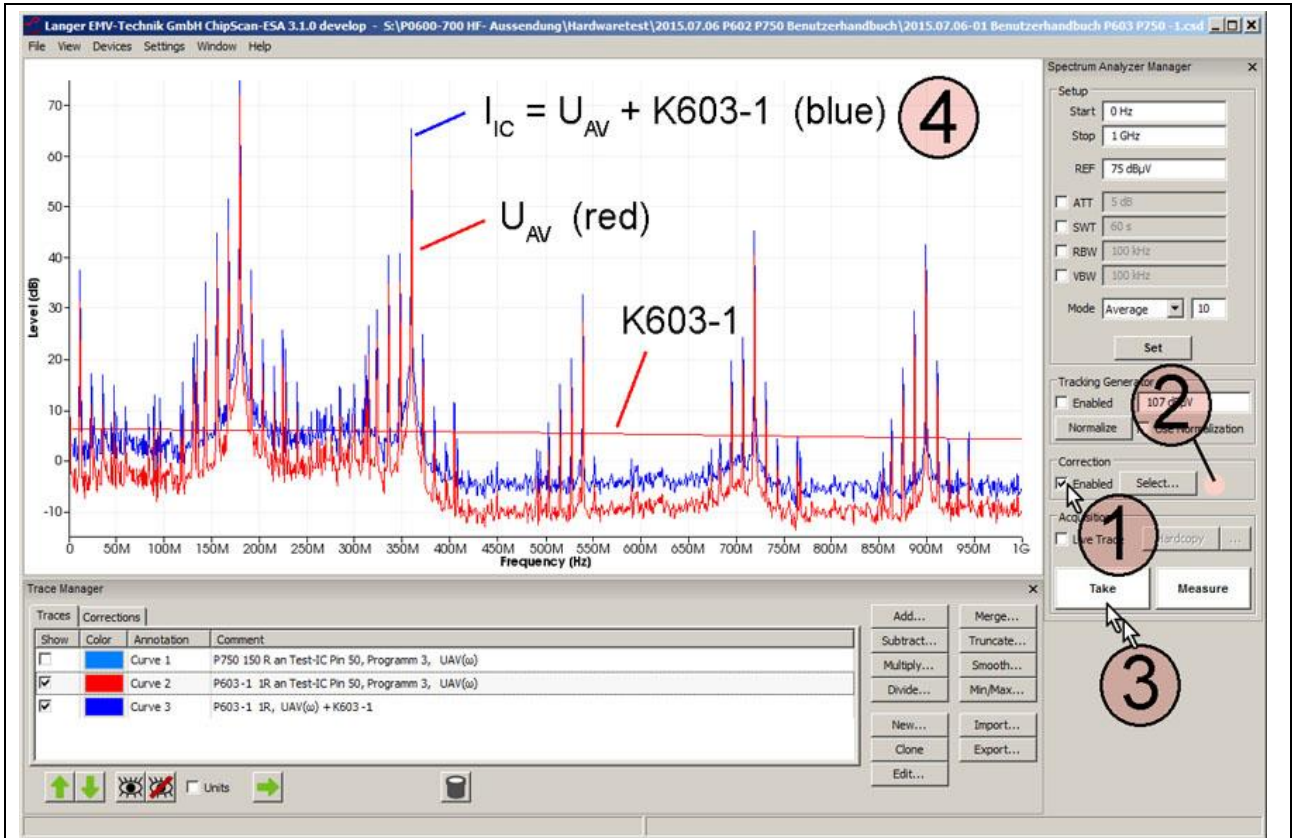

Figure 30: Measurement with the P603 RF current probe head using the correction curve K603-1.
The correction curve K603-1 is loaded to the "Corrections Selector" if the **P603** probe is used for the measurement. Activate the "Enabled" box in the "Correction" field in the "Spectrum Analyzer Manager" with the mouse cursor ① (**Figure 30**). The field ② flashes if the correction is active **Figure 30**. Click "Take" or "Measure" (mouse cursor ③ **Figure 30**) to transfer the current measurement curve ④ $I_{IC}(\omega)$ from the spectrum analyzer to the PC.